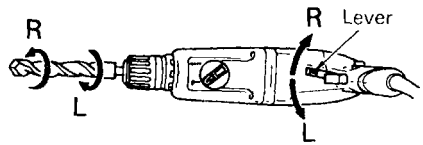

Fig. 4
8. Confirm the direction of bit rotation (Fig. 4)